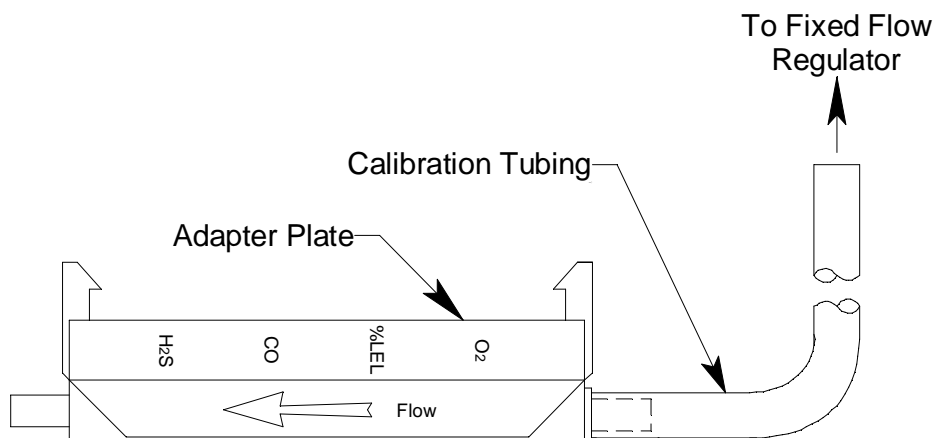

Figure 13: Calibration Kit Assembly
3. Use the sample tubing to connect the calibration adapter plate to the regulator. Attach the tubing to the adapter plate on the inlet side as shown below in Figure 13.